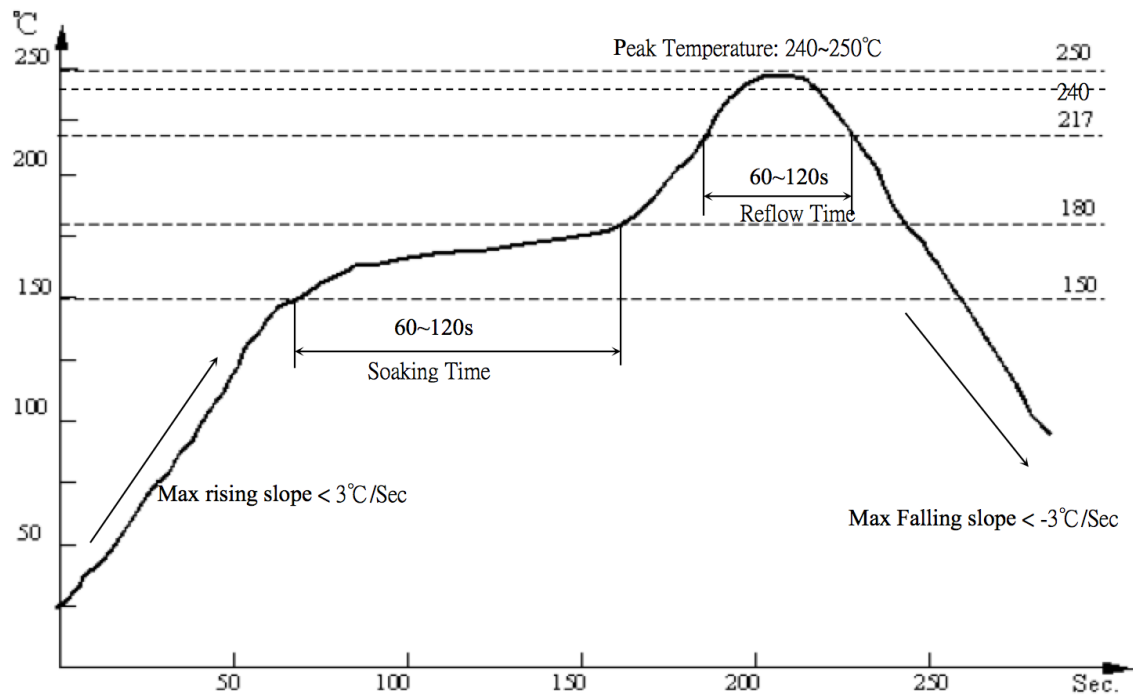

Figure 13 Temperature Curve
- Sealed packaging is equipped with humidity indicator card, as shown in Figure 13.